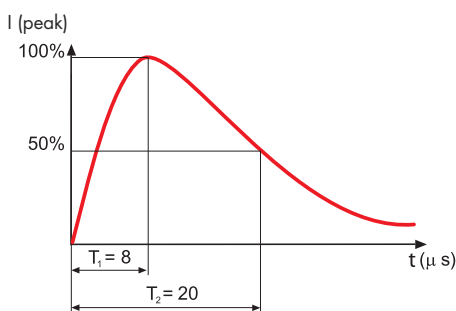
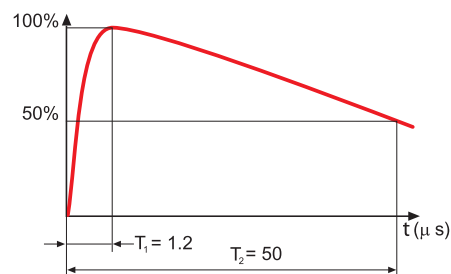

Figure 4: 8/20  $\mu$ s current waveform
Figure 7: 1.2/50  $\mu$ s voltage waveform
Comparison of the waveforms in figures 4 and 6 shows the much higher energy content controlled by the type 1 SPD.
**$U_{oc}$ :** test voltage. This is the peak value of the no load voltage of the combined test-generator; this has a waveform of 1.2/50  $\mu$ s (figure 7) and can supply at the same time current with waveform 8/20  $\mu$ s (figure 4).